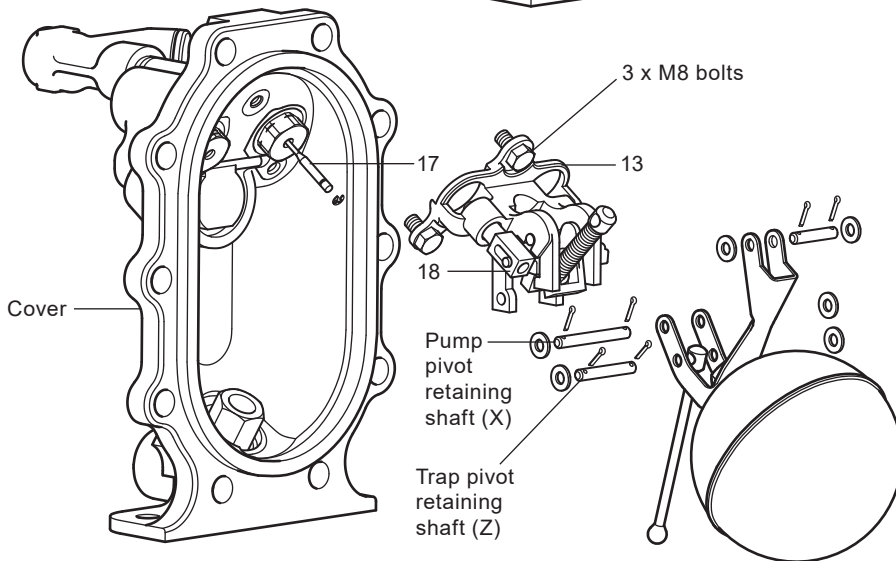

Fig. 21
4. Remove the split pin and washer from one side of trap pivot retaining shaft (Z) and carefully remove.
5. Carefully slide the shafts out from their respective positions observing the orientation of the spring and actuator arm (item 14, 24) within the pump bracket (item 13) as these will need to be refitted later.
6. Remove the split pin and washer from one side of pump pivot retaining shaft (X).
7. To remove shaft (X), the whole pump bracket (13) will need to be separated from the cover. This can be done by unscrewing the three M8 retaining bolts, and **removing the circlip from the steam inlet valve (17)**. Remove the pump pivot retaining shaft (X).
10. It is easier to fit the replacement shafts in the following sequence:- (See Fig. 21).